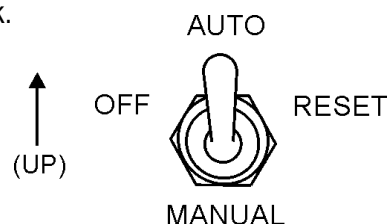

Figure 39. Off/Manual Auto Switch (AUTO)
4. Place the Off/Manual/Auto switch (Figure 39) in the **AUTO** position (up). Observe that the engine begins to crank.